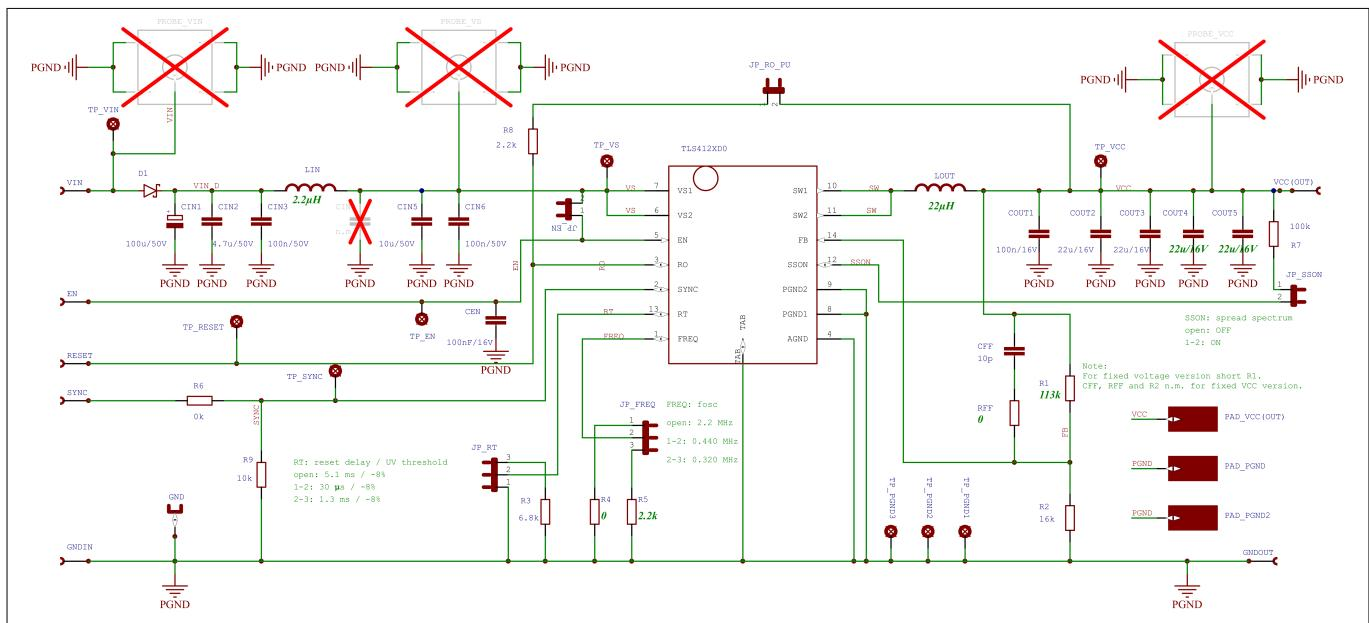

Figure 16 Schematic for adjustable variants in LF configuration
- adjustable variants TLS412xD0EPV in LF configuration, see Figure 16